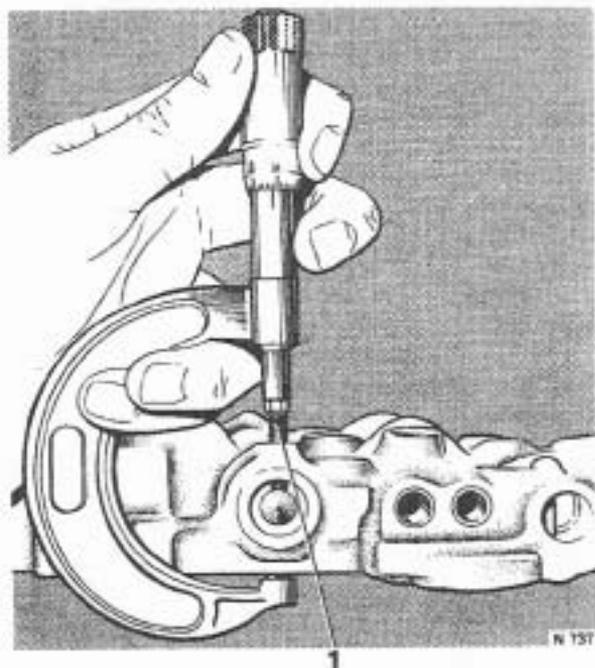

FIG. T200 MEASURING THE ADJUSTING SCREW (EARLY CARS)
15. After removing any burrs, measure from the screw head to the machined surface of the valve body (see Fig. T200). Note the measurement.